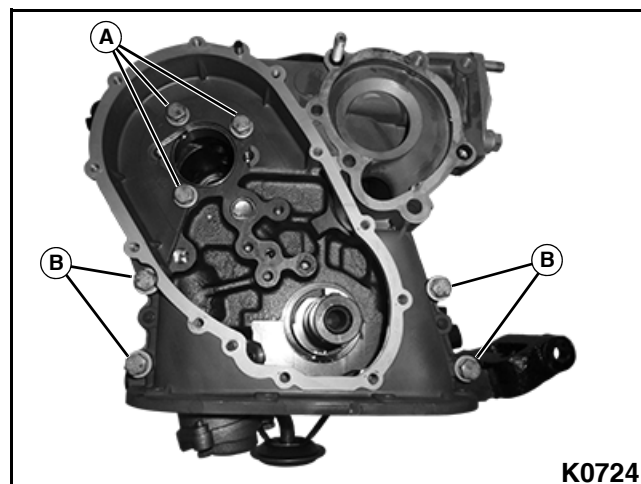

Figure 3-171
1. Remove three bolts, lock washers, and flat washers (A), from the inside of the timing chain housing. See Figure 3-171.
2. Remove four bolts, lock washers, and flat washers (B), from the outside of the timing chain housing.